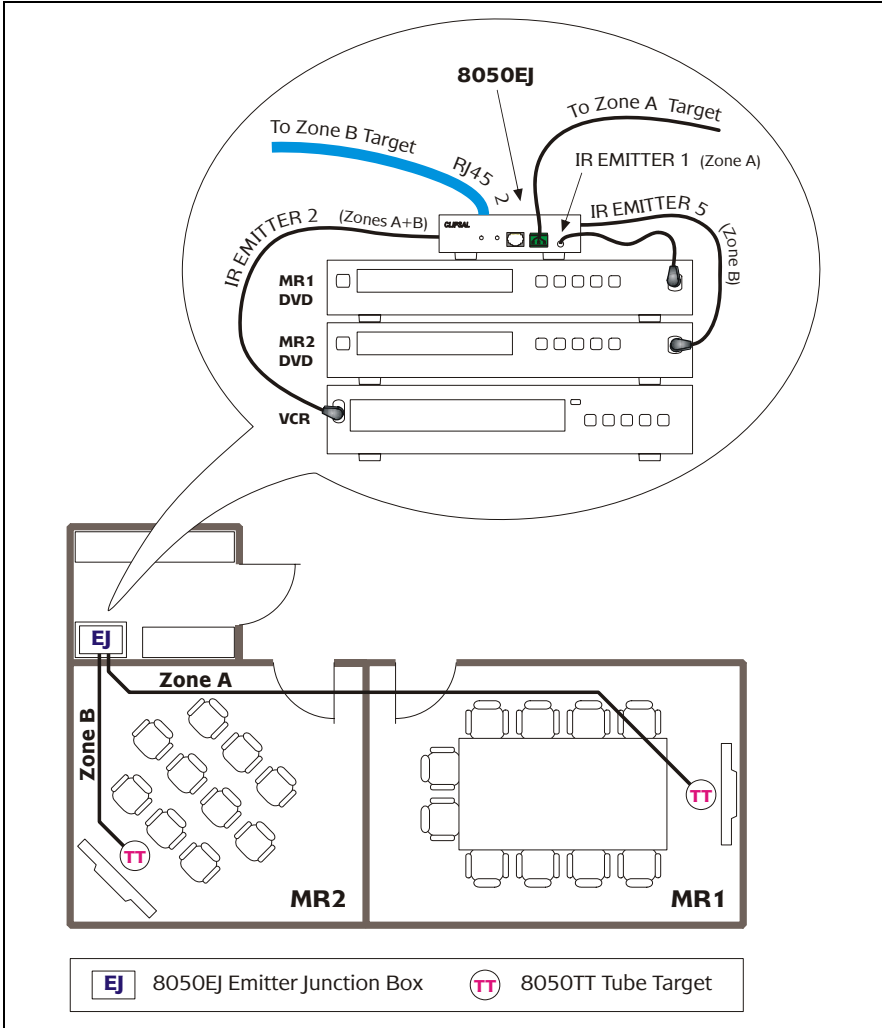

Figure 5 – Example of a business installation
Figure 5 shows a business installation with two separate meeting rooms. Each meeting room has its own DVD unit and a shared VCR (located in a separate room). The IR Tube Target (TT) in MR2 is connected to Zone B. This allows an IR remote to control the VCR and MR2 DVD. The Tube Target in front of the monitor in MR1 is connected to Zone A, allowing an IR remote to control the VCR and MR1 DVD.